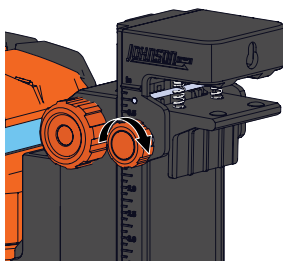

Figure 34
3. To attach the track mount accessory to a track, turn the smaller adjustment knob to open the track clamp. (Figure 34)